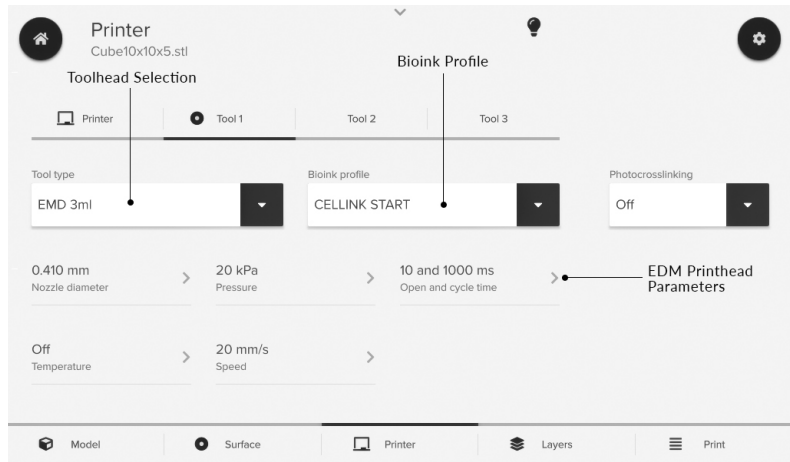

Figure 19: Printing parameters to set on the Printer menu.
5. Select printhead positions that have been set up. Make sure the EMD Printhead is selected under the tool type (Figure 19).
6. Enter the desired printing parameters for the printhead (Figure 19) and proceed to the Layers menu. Parameters necessary for the EMD Printhead include: